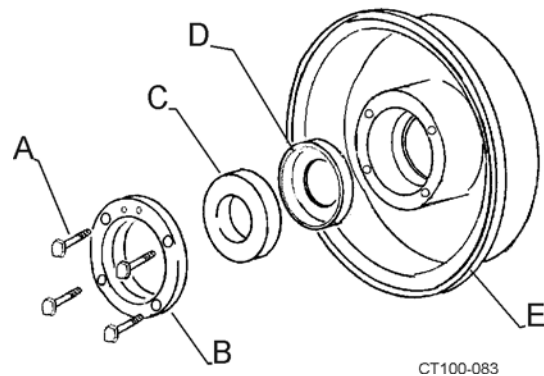

Figure 5 - Removing Stationary Seal
10. Remove four 1/4" hex bolts and stationary seat retainer ring. (Figure 5, items A and B).
11. Pull the stationary seal and L-gasket out of backplate. (Figure 5, items C and D).